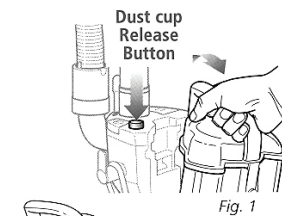

Fig. 1
- 1 Press the Dust Cup release button and remove the dust cup from the vacuum. (Fig. 1)